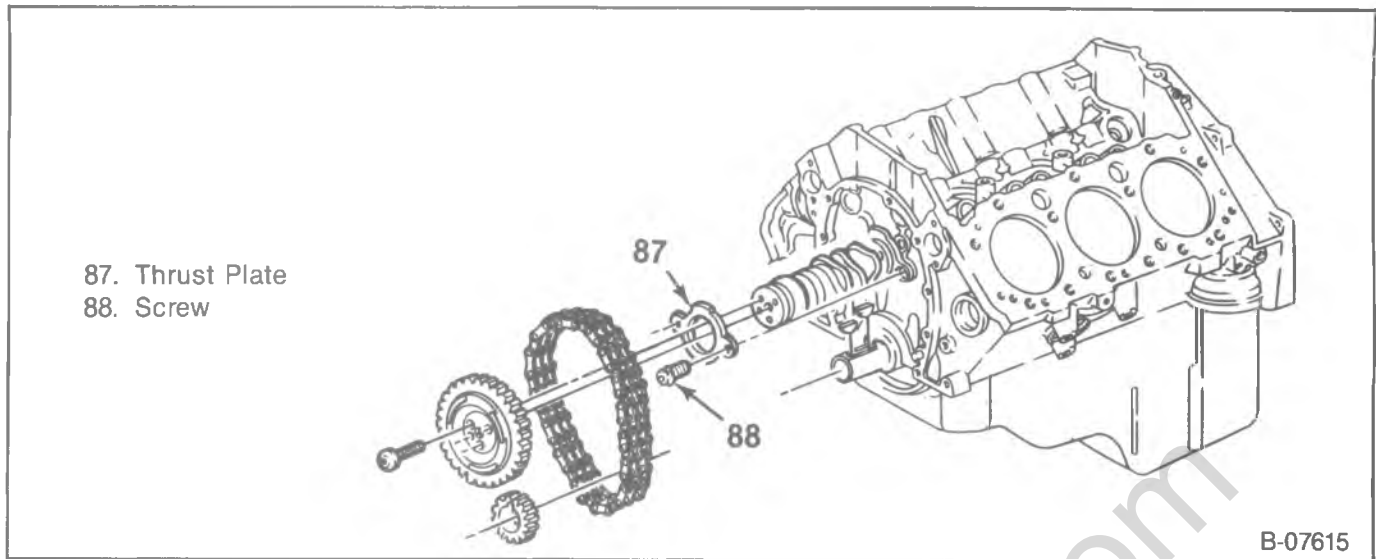

Figure 25—Camshaft and Components
↔ Remove or Disconnect (Figures 25 through 28)
Install or Connect (Figures 25 through 28, 36, and 37)
**Remove or Disconnect (Figures 25 through 28)**
**Install or Connect (Figures 25 through 28)**